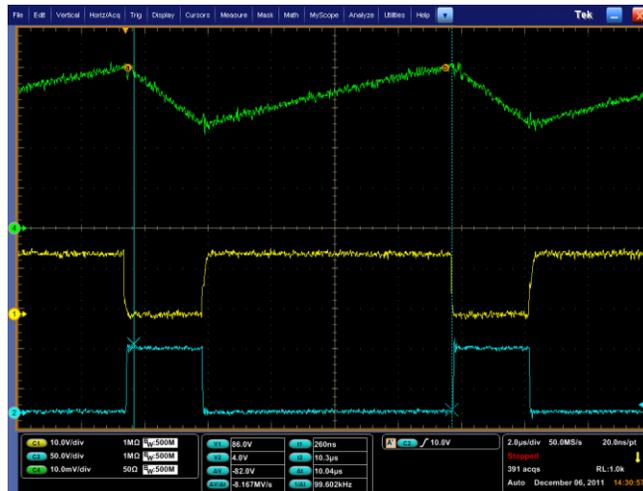

Figure 2 : Test Setup 1 Waveforms
- 6. A typical waveform is shown in Figure 2:**